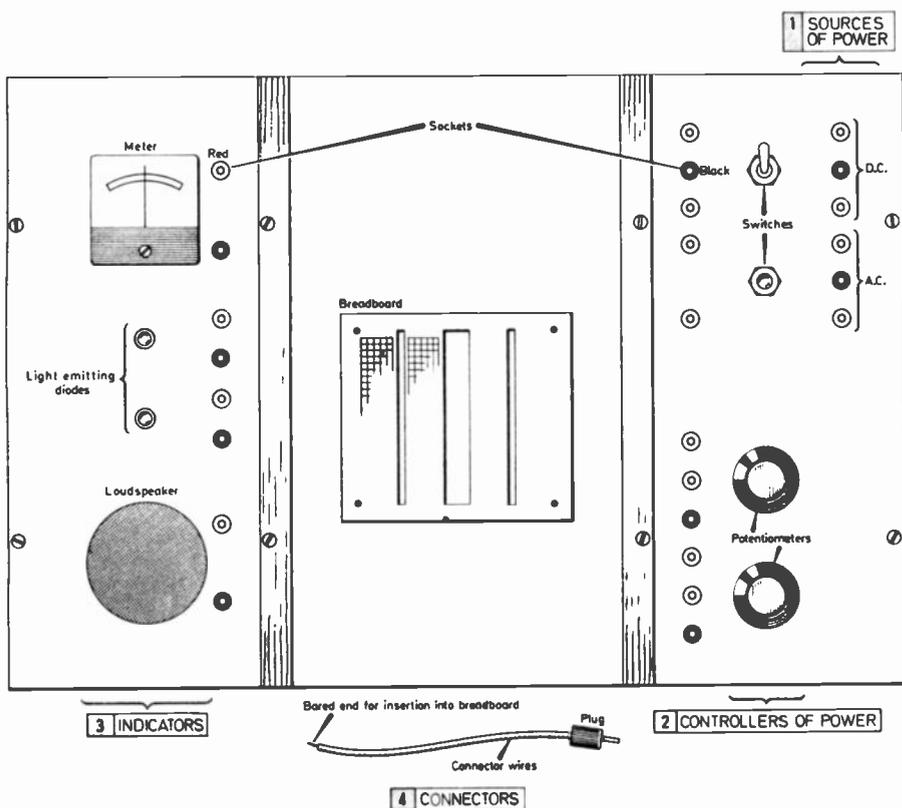

Fig. 1.9 The three types of component on the Tutor Deck.
- (1) **sources of power**, both d.c. and a.c.
- (2) **controllers of power** and
- (3) **indicators** (Fig. 1.9).